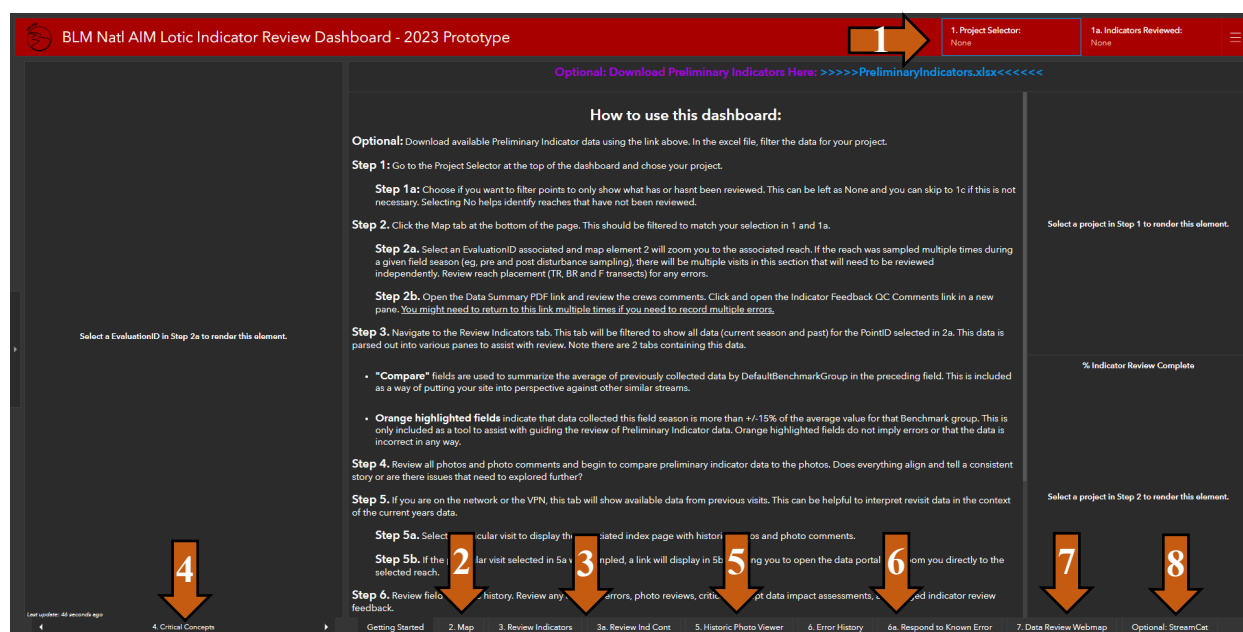

Figure 5. Screenshot of the Indicator Review Dashboard
- Prior to reviewing data from the crew's first trip watch the QC webinars which covers detailed instructions on how to use the Indicator Review Dashboard. Only general instructions are provided below. The Indicator Review Dashboard has the following key components (Figure 5):
- C. Select your project from the Project Selector (1) at the top of the page. Next, using the Indicators Reviewed Selector (1a) select “No”. This will filter out any reaches that you have already reviewed Indicators for.
- D. Open the Map tab (Figure 5, Label #2). Select the first reach from the list on the left (2a).
- E. Review the reach’s placement on the map (2) against satellite imagery and orient yourself to the area. If the reach has been previously evaluated, compare both reaches top of reach, bottom of reach and F transect placement.
- H. Open the first Review Indicators tab (Figure 5, Label #3). Indicators are organized and arranged into panels allowing the user to see and compare multiple indicators at the same time.
- I. Review the photos (Figure 5, Label #4) to get a feel for the nature of each reach. For example, is the reach high versus low gradient, confined versus unconfined, or highly impacted by management or unaltered? All photos are categorized into tabs. Click the tabs name to select your next tab from a list or use the arrows to navigate.
- L. If the reach has been previously evaluated, open the Historic Photo Viewer tab (Figure 5, Label #5), and select the visit from the list on the left (5a). Once selected, all photos and photo comments will be displayed in the window on the right.
- M. Next open the Error History tab (Figure 5, Label #6) and review all “Transactional Dialog” of the QC information related to the selected reach. Select an element in this pane and then review the information displayed in the “Transactional Dialog” box.
- O. OPTIONAL: If you wish to dive deeper into the current field seasons data to determine why a particular indicator is being computed a certain way, navigate to the Data Review Webmap tab (Figure 5, Label #7). This tab will automatically be zoomed to the reach you have selected. Click on the Points layer and select “Show Related Records” to look at available raw data.
- P. OPTIONAL: Curious about other factors in your reaches watershed that could be impacting its data? Open the Optional: StreamCat tab (Figure 5, Label #8) to see what information EPA StreamCat has for your reach’s catchment and watershed.
- Q. To record the outcomes of the above review, open the QC Comments form using the Dashboard (Figure 5, Label #2) – 2b. Both positive and negative outcomes need to be recorded. If no errors were found, mark that everything looks good and submit. Identified errors should be recorded individually to ensure that all data decisions are properly tracked and implemented. For each error choose the method the issue is most associated to, mark whether to flag, omit or edit the data, and provide a comment and reasoning. If follow up is needed to resolve the error still record it as an error, use the “Flag” category, and make clear comments. This is the only location where Indicator Review feedback can be recorded. All other QC Comments links are configured for recording and tracking Field Data QC issues. Examples:
- I. Review photos (Figure 5, Label #4) and reach coordinates displayed on the dashboard map (Figure 5, Label #2) to determine if sampling conditions and reach placement were similar or if major changes occurred at a reach.
- a. Historic photos can be found using the Historic Photo Viewer tab (Figure 5, Label #5).
- II. Quickly review field comments from the crew (Figure 5, Label #2) – 2b.
- III. Review the “Transactional Dialog” for any field errors (Figure 5, Label #6). Follow details in step M above.
- IV. Review Indicators (Figure 5, Label #3) and compare covariate values to the photos and through time. Any large differences in covariates are particularly concerning because things such as stream slope usually do not change appreciably among years.
- VII. To record the outcomes of the above review, open the QC Comments form using the Dashboard (Figure 5, Label #2) – 2b. Both positive and negative outcomes need to be recorded. If no errors were found, mark that everything looks good and submit. Identified errors should be recorded individually to ensure that all data decisions are properly tracked and implemented. For each error choose the method the issue is most associated to, mark whether to flag, omit or edit the data, and provide a comment and reasoning. If follow up is needed to resolve the error still record it as an error, use the “Flag” category, and make clear comments. Examples: